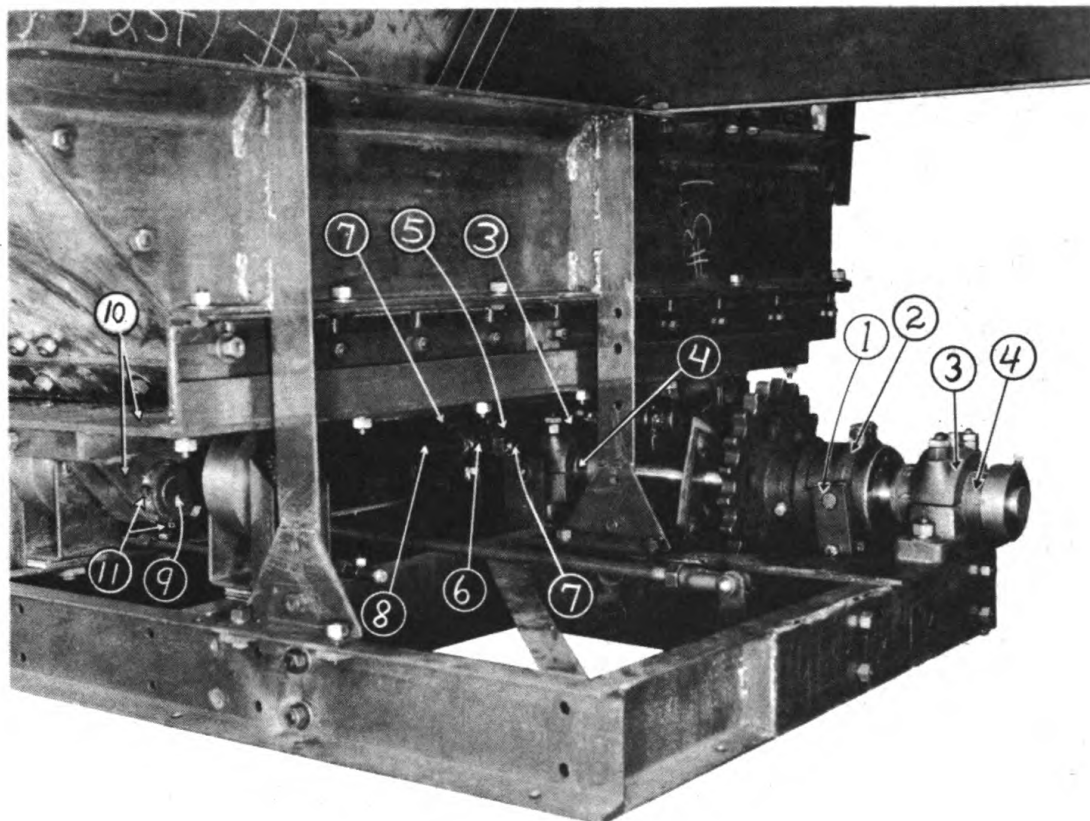

FIGURE 117
2. Remove the anchor plate (1) Fig. 117 used to maintain position of the shifter yoke (2).
3. Remove bearing caps (3) from bearings (4).
4. Remove half nut (5) located on end of crank pin. Loosen set screw (6) in BAR welded on end of crank shaft. Remove crank pin (7).
6. The connecting rod (8) can also be removed if necessary by removing the pin (9) that secures the connecting rod to the reciprocating plate (10) of feeder. This pin is held in place by set screws (11).